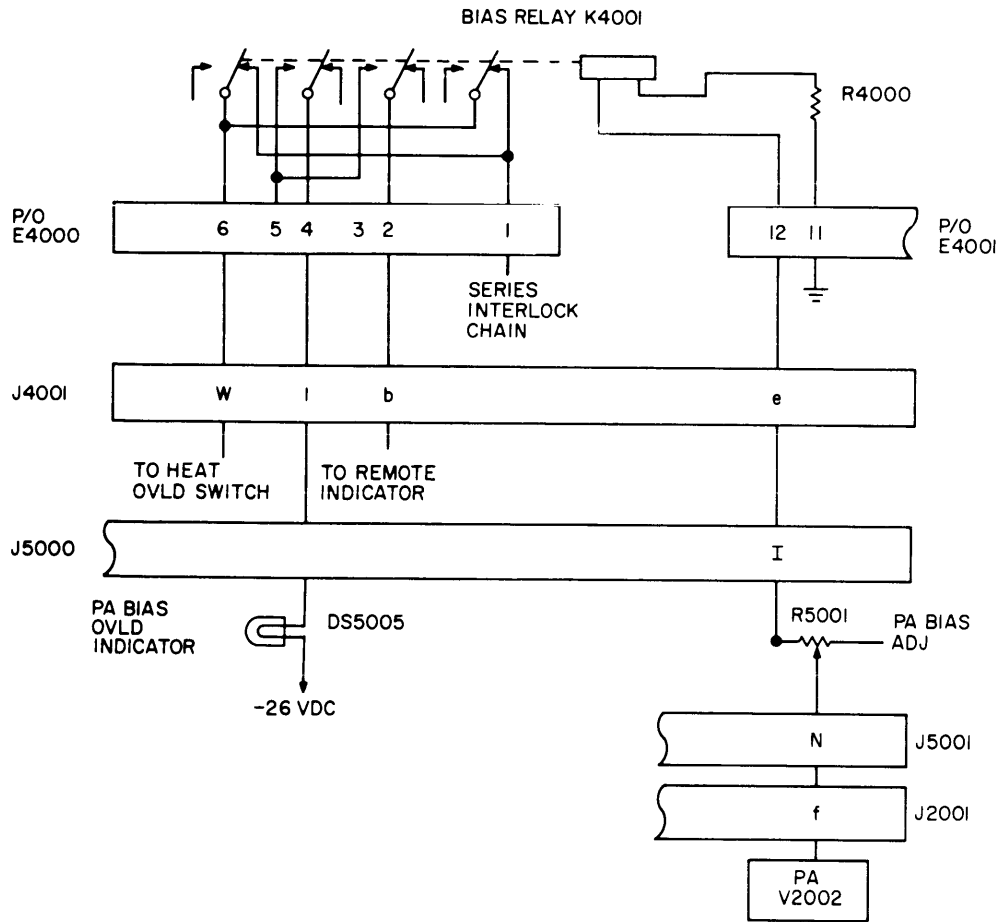

Figure 4-4. Bias Relay K4001
c. PA BIAS RELAY K4001 (refer to figure 4-4) - The PA Bias relay K4001 is energized when the -400 vdc output from the low voltage power supply is present. Since the voltage is used to supply bias for power amplifier V900, this relay is called the PA Bias relay.